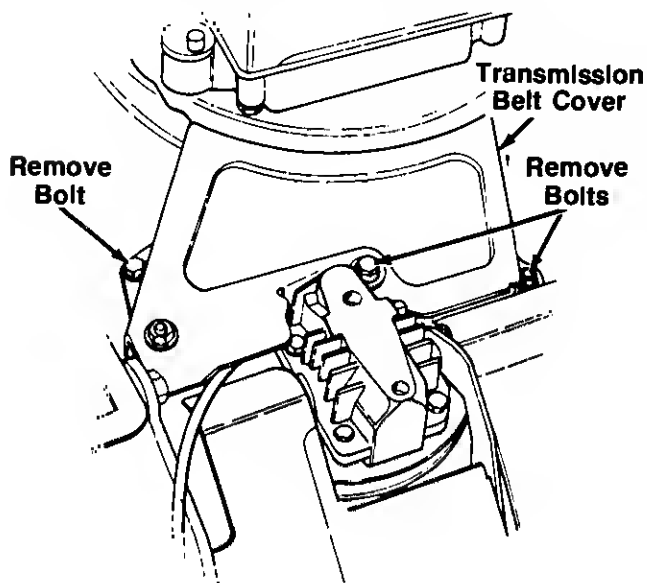

FIGURE 29.
4. Remove the transmission belt cover by removing three bolts. See figure 29.